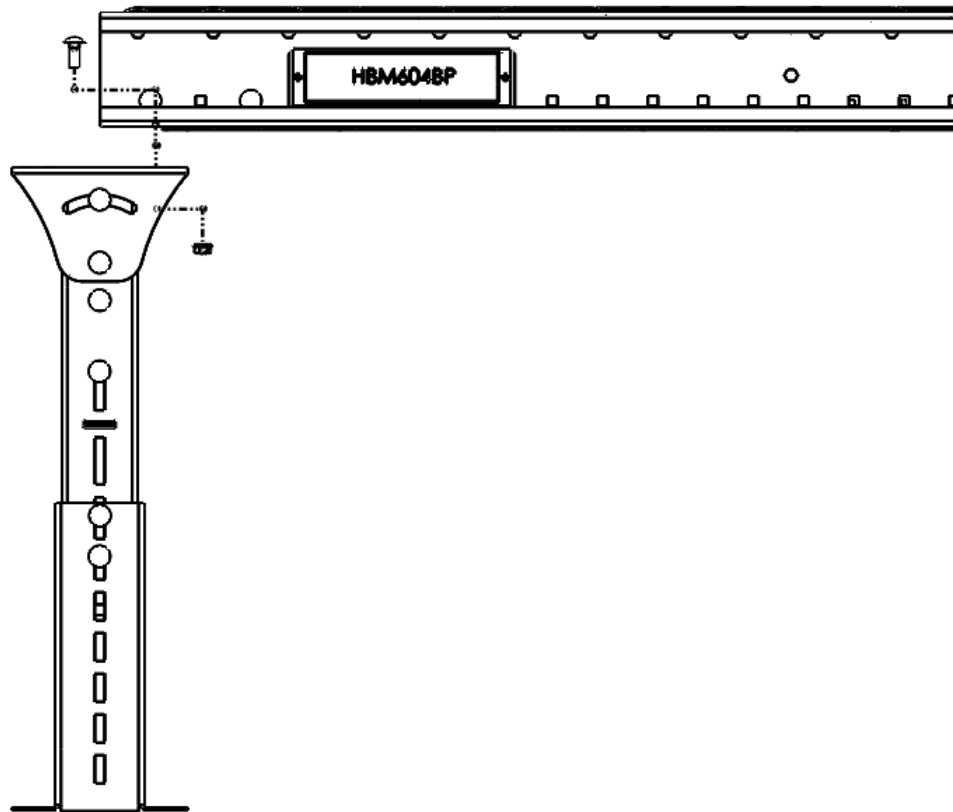

Figure 4: Fastening RLSDC to Floor Support
Figure 4: Fastening RLSDC to Floor Support.....	10
6. Place the conveyor onto the support structure and fasten it securely using the 3/8"-16 carriage bolts and wiz nuts provided as shown in Figure 4 (floor support shown as an example support structure). The recommended torque specification is 26ft-lbs.